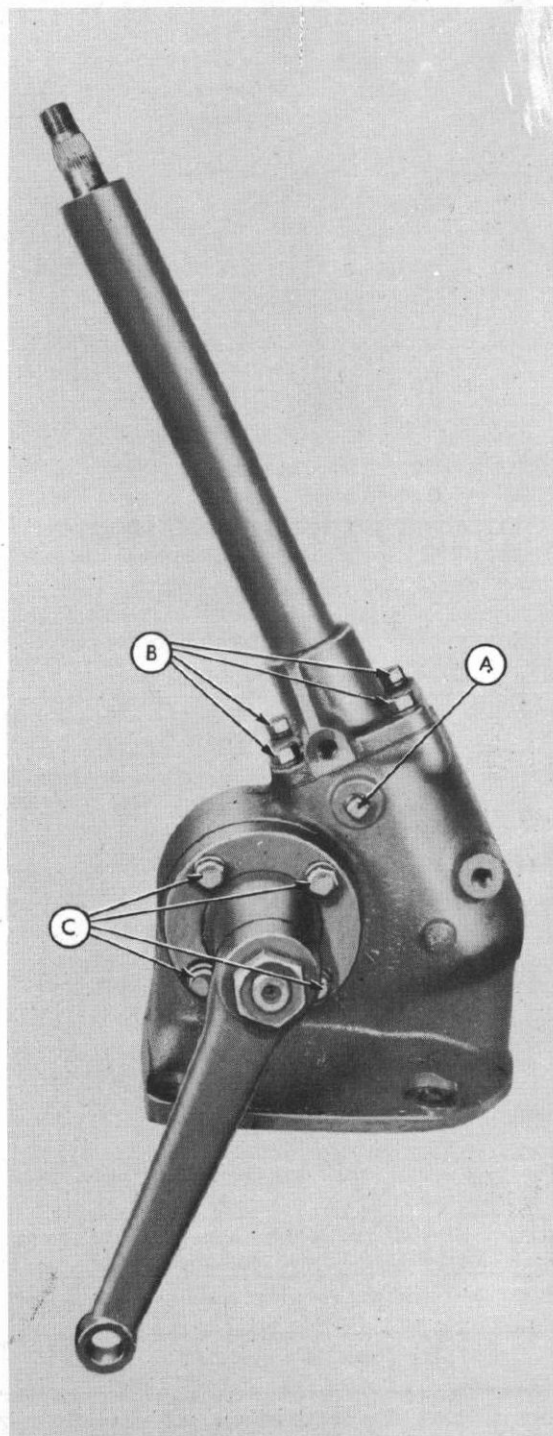

Fig. 1
Step 1—Drain the oil by removing the oil plug (A-Figure 1).
Step 3—Unscrew the cap screws (C-Figure 1) that hold the sector shaft housings and washers to the gear case.
Step 5—Remove the cover and tube assembly cap screws (B-Figure 1) and lift the assembly off of the gear case.